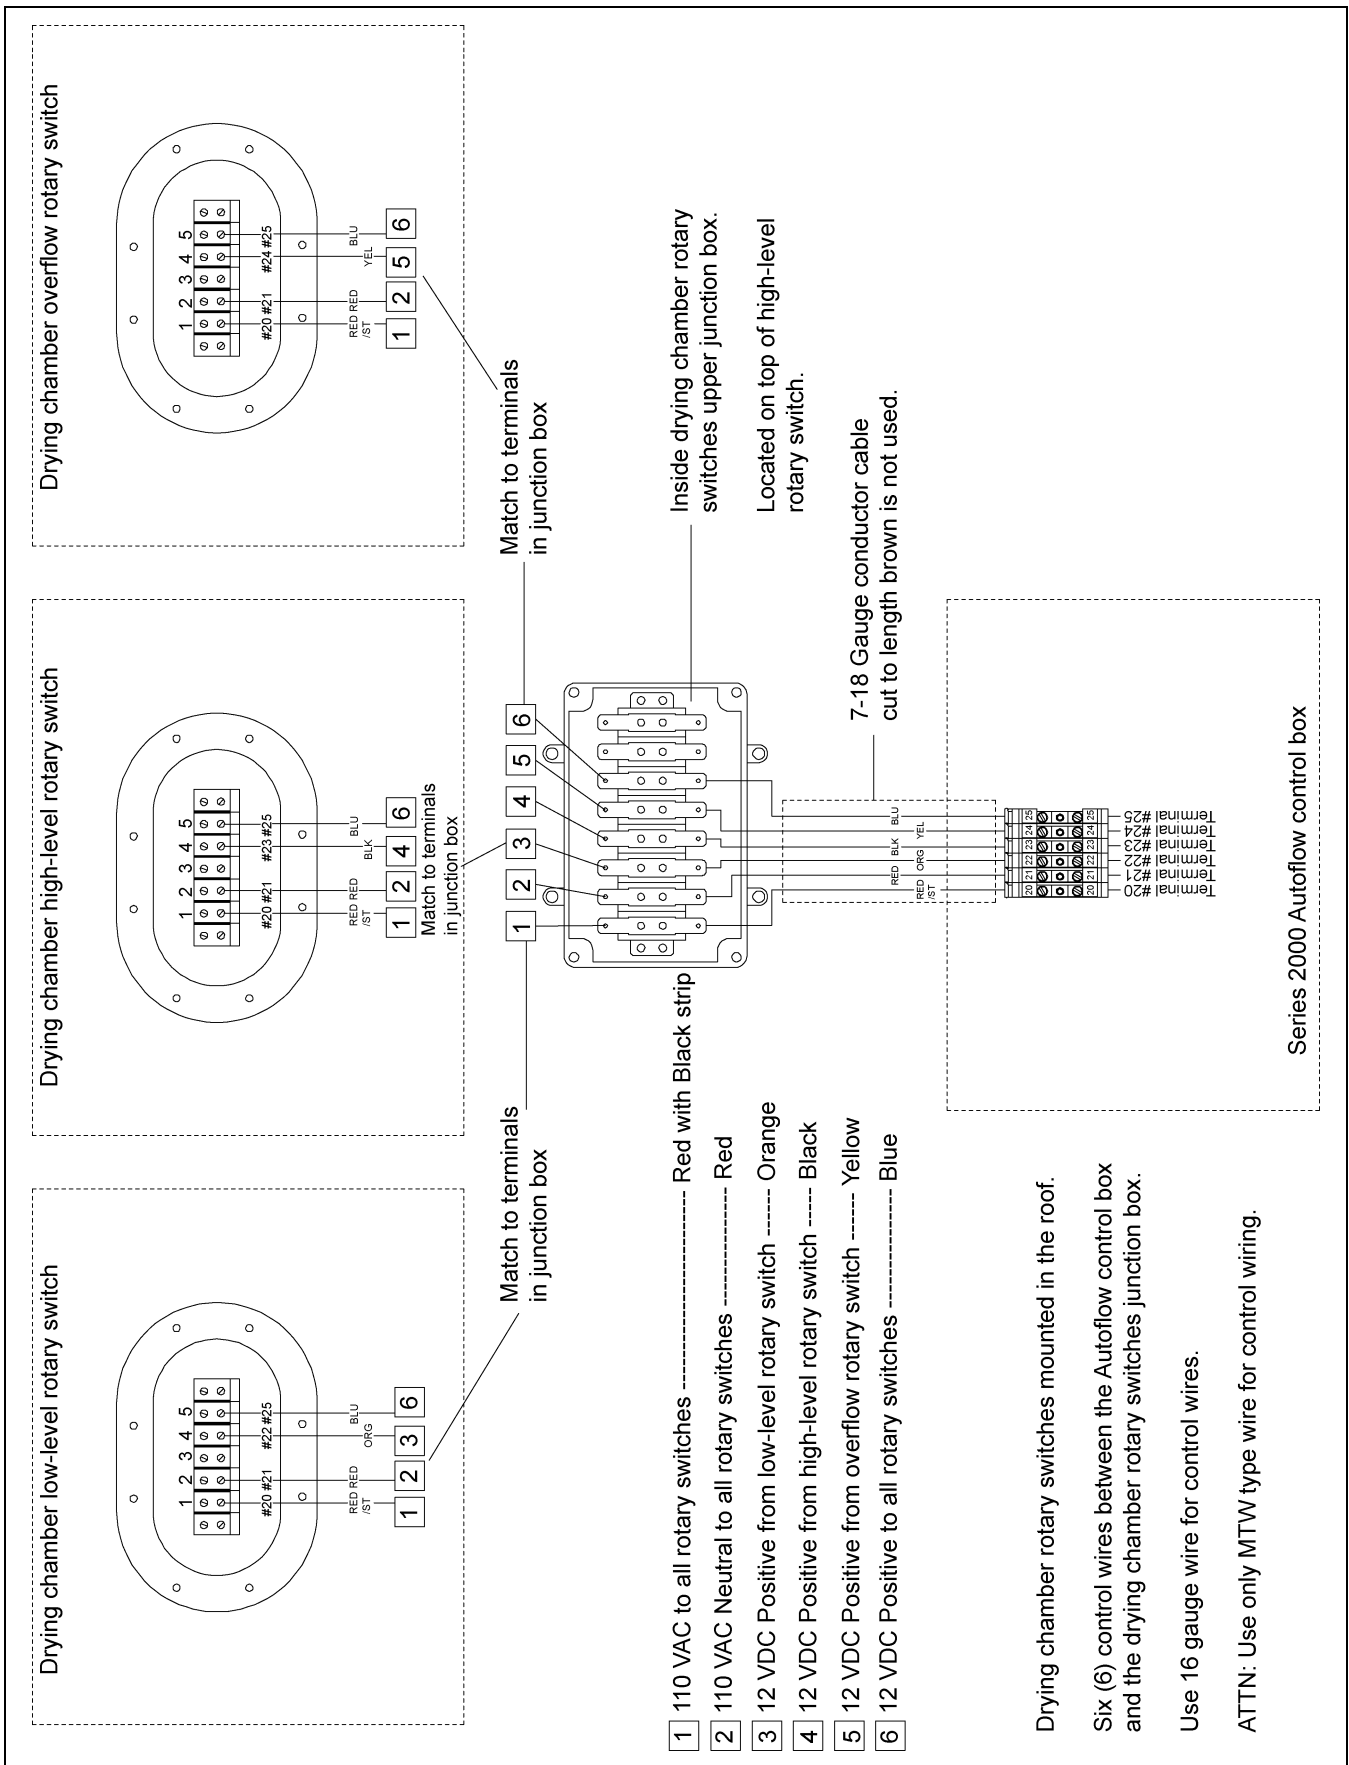

Figure 4I
1. Run six (6) control wires from the Autoflow control box to the Drying Chamber Rotary switches.
2. Connect the wires as shown in Figure 4I on Page 45.